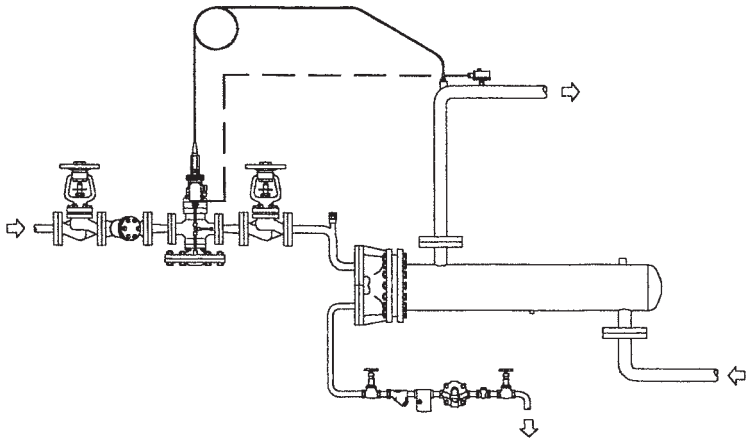

Fig. 7
- 4.6.3 On smaller heat exchangers with draining to atmosphere, a simple remedy is to install a vacuum breaker on the steam inlet to the heat exchanger. It is also necessary to adequately size the condensate removal system and the steam trap in order to prevent heat exchanger flooding. The trap must be placed at a certain distance below the exchanger outlet, and must be adequately sized for a pressure equal to the static head between the heat exchanger outlet and the trap inlet. The condensate pipe from the trap should slope down so that no further back pressure is added on the trap (Fig. 7).